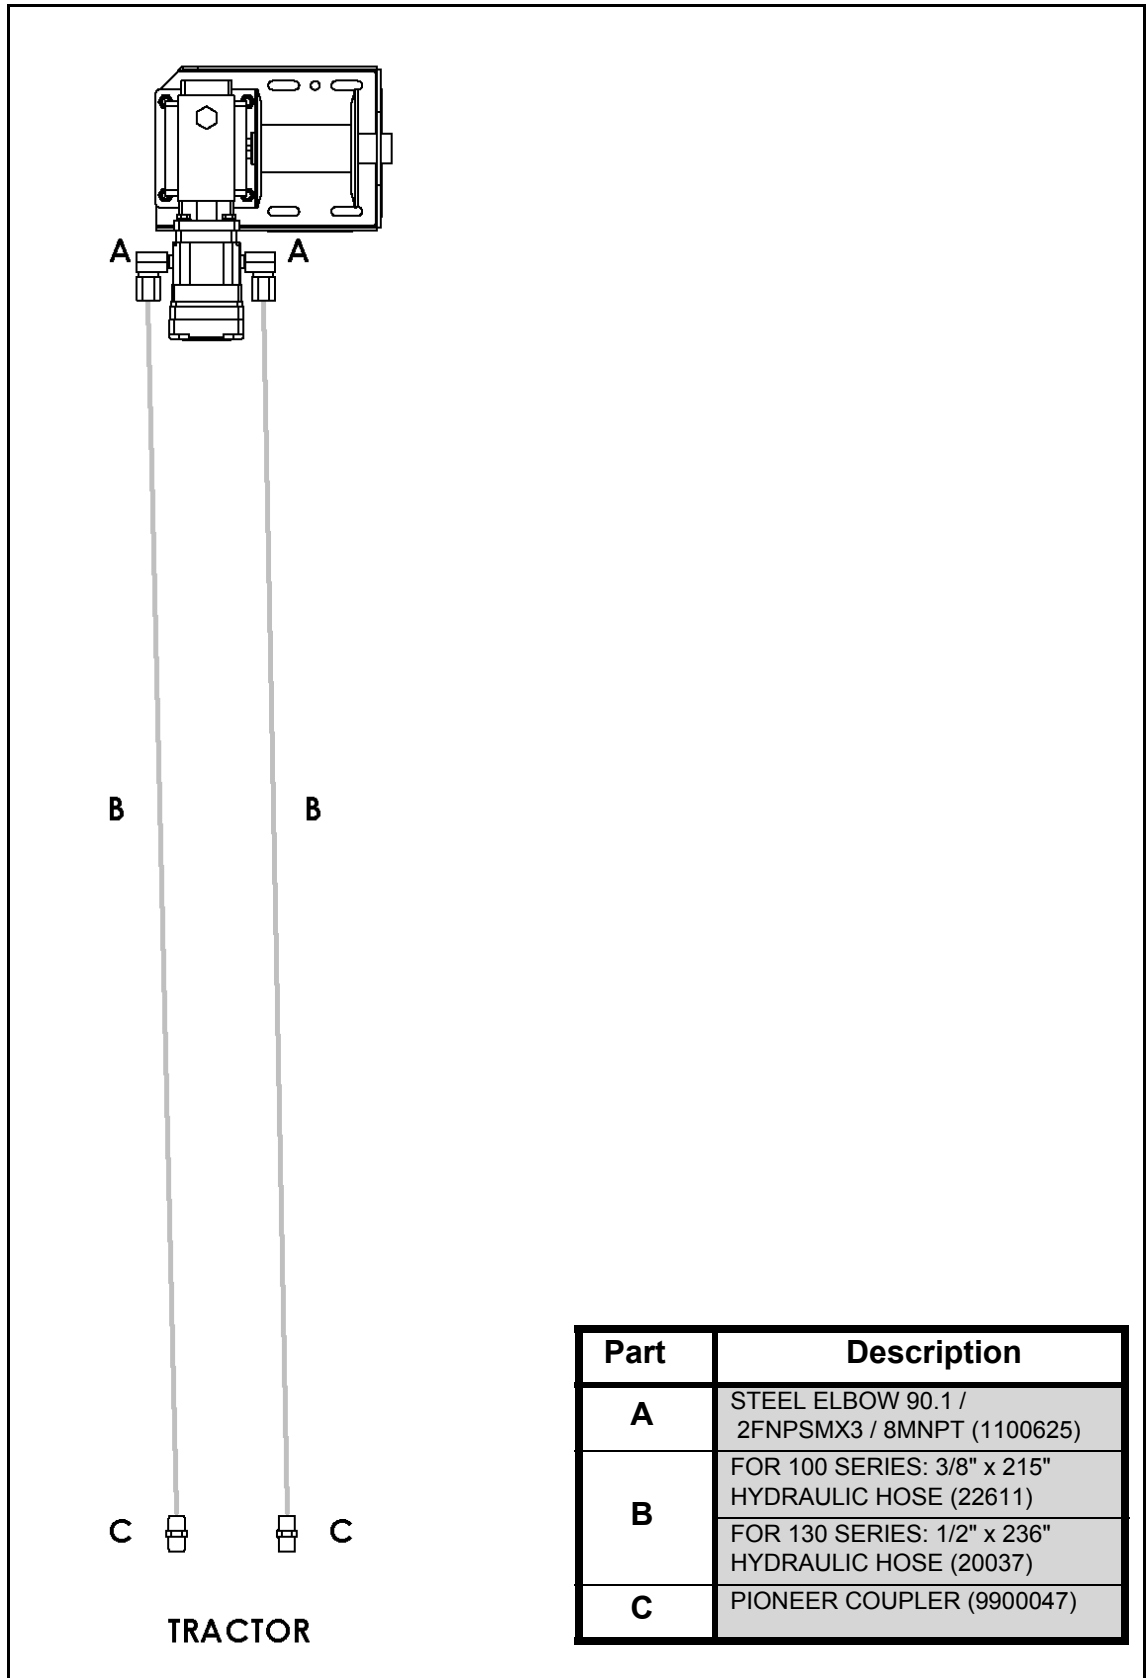

Figure 5 Installing the Hydraulic Hose Between the Winch and Tractor
7. Connect hydraulic hose between the tractor and winch (see Figure 5).